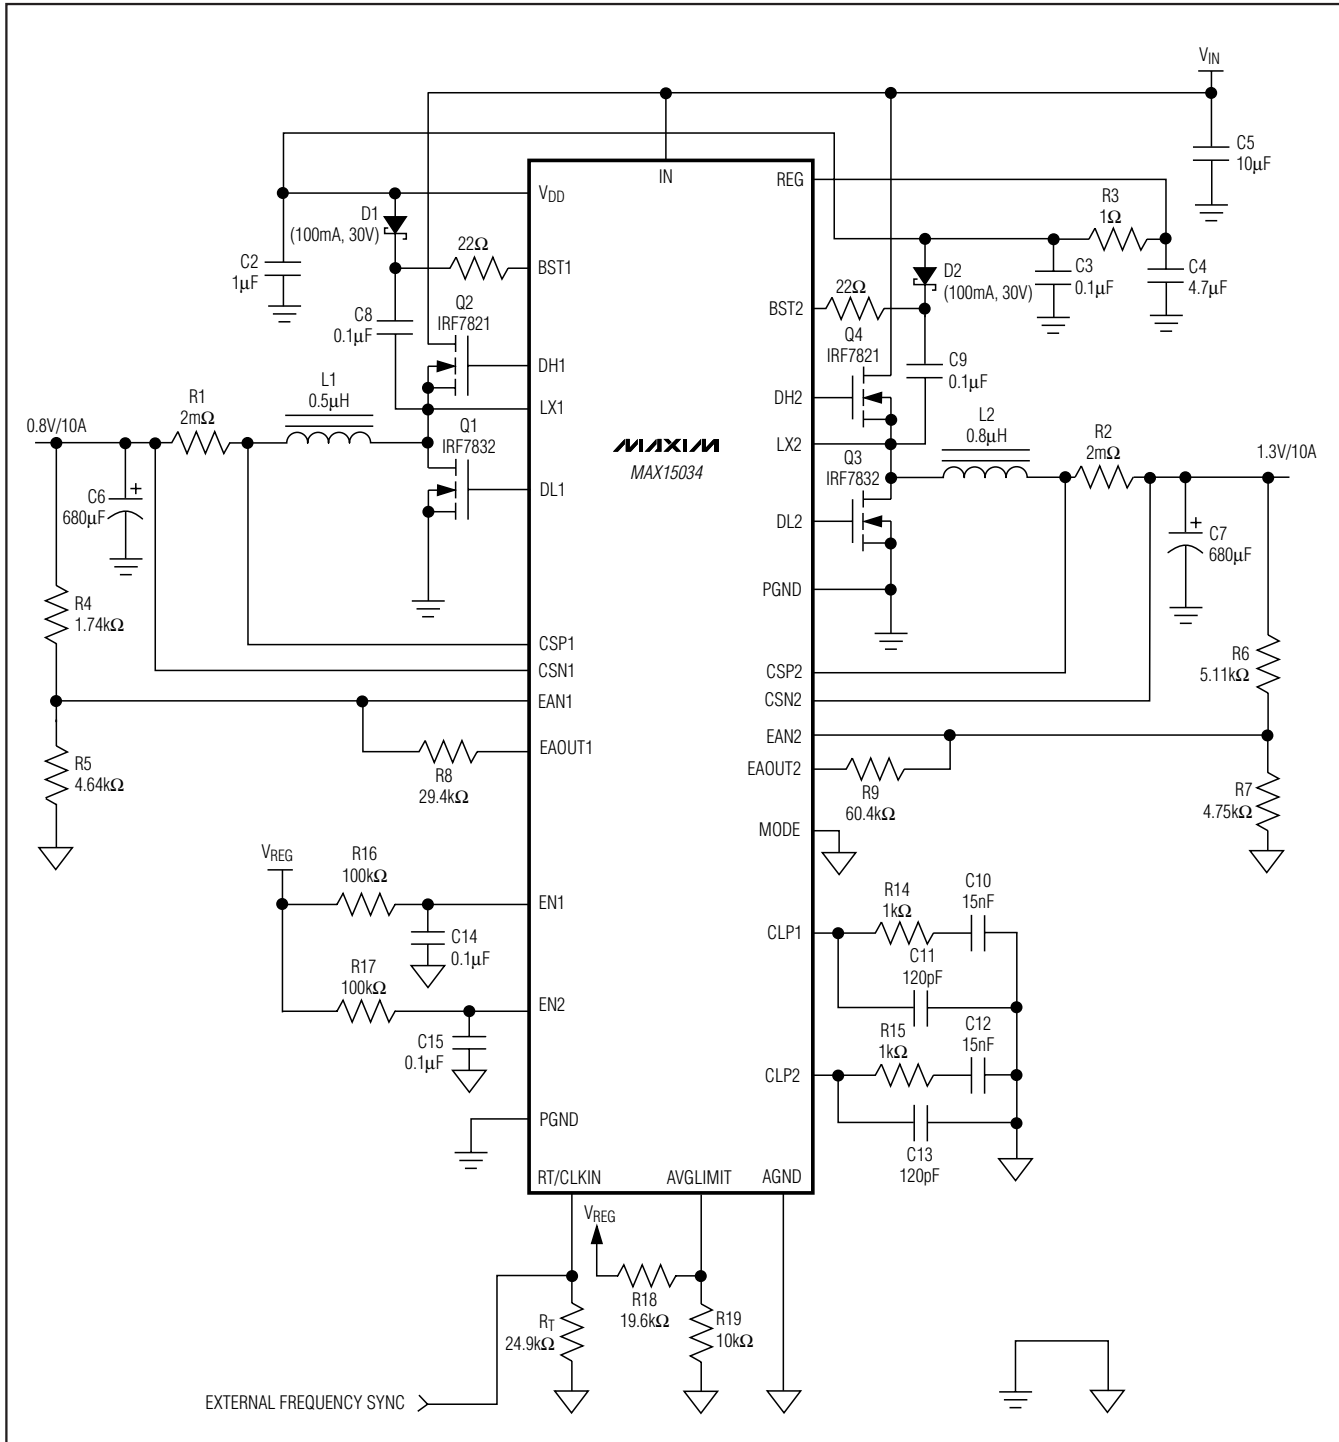

Figure 6. Dual-Output Buck Regulator
(Circuit of Figure 6,  $T_A = +25^\circ\text{C}$ , unless otherwise noted.  $V_{IN} = 12\text{V}$ ,  $V_{OUT1} = 0.8\text{V}$ ,  $V_{OUT2} = 1.3\text{V}$ ,  $f_{SW} = 500\text{kHz}$  per phase.)
where IIN is the quiescent supply current into IN (4mA, typ), QGQ1, QGQ2, QGQ3, QGQ4 are the total gate charges of MOSFETs Q1 through Q4 at VGS = 5V (see Figure 6), and fSW is the switching frequency of each individual phase.
BST1 and BST2 supply the power for the high-side MOSFET drivers for output 1 and output 2, respectively. Connect BST1 and BST2 to VDD through rectifier diodes D1 and D2 (see Figure 6). Connect a 0.1μF ceramic capacitor between BST\_ and LX\_.
Minimize the trace inductance from BST\_ and VDD to the rectifier diodes, D1 and D2, and from BST\_ and LX\_ to the boost capacitors, C8 and C9 (see Figure 6). This is accomplished by using short, wide trace lengths.
The compensation network at the current-error amplifiers (CLP1 and CLP2) provides an inherent soft-start of the output voltage. It includes (R14 and C10) in parallel with C11 at CLP1 and (R15 and C12) in parallel with C13 at CLP2 (see Figure 6). The voltage at the current-error amplifier output limits the maximum current available to charge the output capacitors. The capacitor at CLP\_ in conjunction with the finite output-drive current of the current-error amplifier yields a finite rise time for the output current and thus, the output voltage.
An internal oscillator generates the 180° out-of-phase clock signals required for both PWM modulators. The oscillator also generates the 2Vp-p voltage ramps necessary for the PWM comparators. The oscillator frequency can be set from 200kHz to 2MHz by an external resistor (RT) connected from RT/CLKIN to AGND (see Figure 6). The equation below shows the relationship between RT and the switching frequency:
where  $I_{MAX}$  is the full load current of the regulator.  $V_{OUT}$  is the output voltage of the same regulator and  $C_{IN}$  is C5 in Figure 6. The ESR of the input capacitors wastes power from the input and heats up the capacitor. Reducing the ESR is important to maintain a high overall efficiency and in reducing the heating of the capacitors.
where  $I_{LOAD\_STEP}$  is the step in load current and  $t_{RESPONSE}$  is the response time of the controller. Controller response time depends on the control-loop bandwidth.  $C_{OUT}$  is C6 and C7 in Figure 6.
where  $\Delta V_{OUT}$  is the allowable drop in voltage from no load to full load.  $R_F$  is  $R_8$  and  $R_9$ ,  $R_1$  is  $R_4$  and  $R_6$ ,  $R_2$  is  $R_5$  and  $R_7$  in Figure 6.